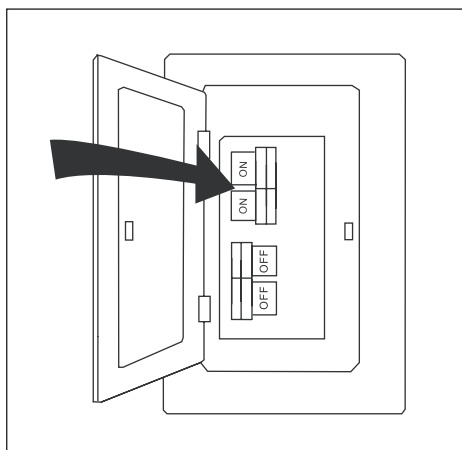

Figure 2.13
13. Turn on power to fan at breaker box and the wall switch (Figure 2.13). Assembly is complete.